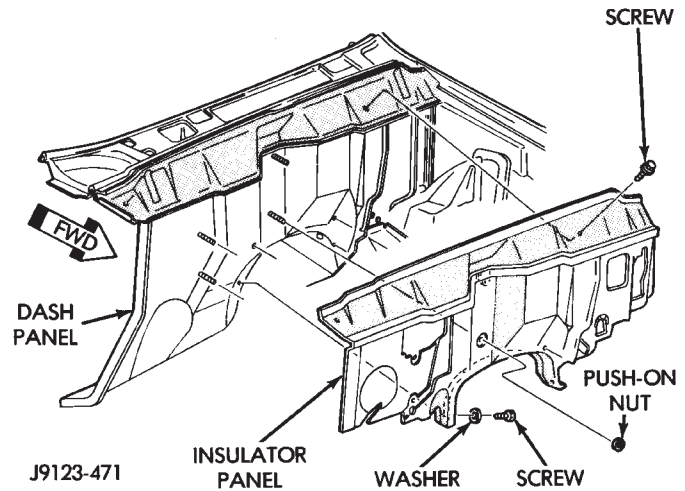

Fig. 24 Dash Panel Insulator Panel
- (1) Remove the push-on nuts from the studs (Fig. 24).